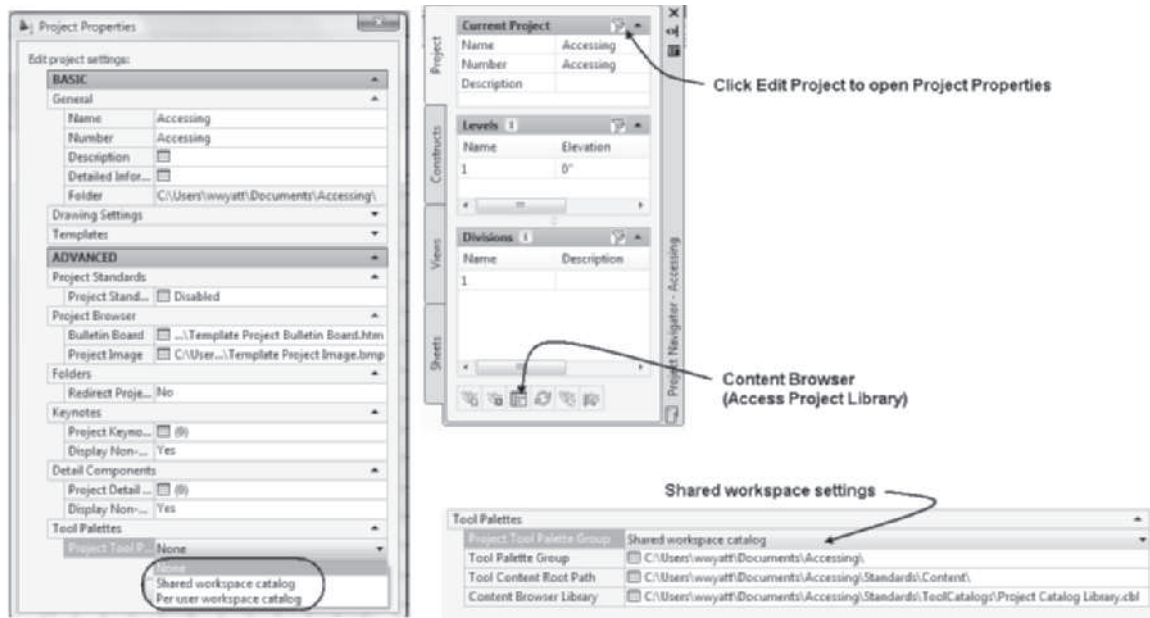

FIGURE 10.31 Editing the Project Properties to access the Project Catalog Library
1. Select the Project tab of the Project Navigator. Click the **Edit Project** button, shown in Figure 10.31, to open the **Project Properties** dialog box.
Projects created from the project templates provided include a Standards folder. The Standards folder is placed in the project for CAD Management to store palette information and drawing content that can be used in the project. The Project Library and Project Catalog is created within the Standards\Tool Catalogs folder of a project. The Content Browser button located on the Project Navigator (see Figure 10.31) provides access to this tool catalog by default. Drawings that include styles for standardization can be placed in the Content folder and used during project synchronization. You can use the **AecToolCatalogGenerator** command to create tools from objects that have been used in a standard drawing or all drawings of a project. The steps to creating a self-contained project are described below.